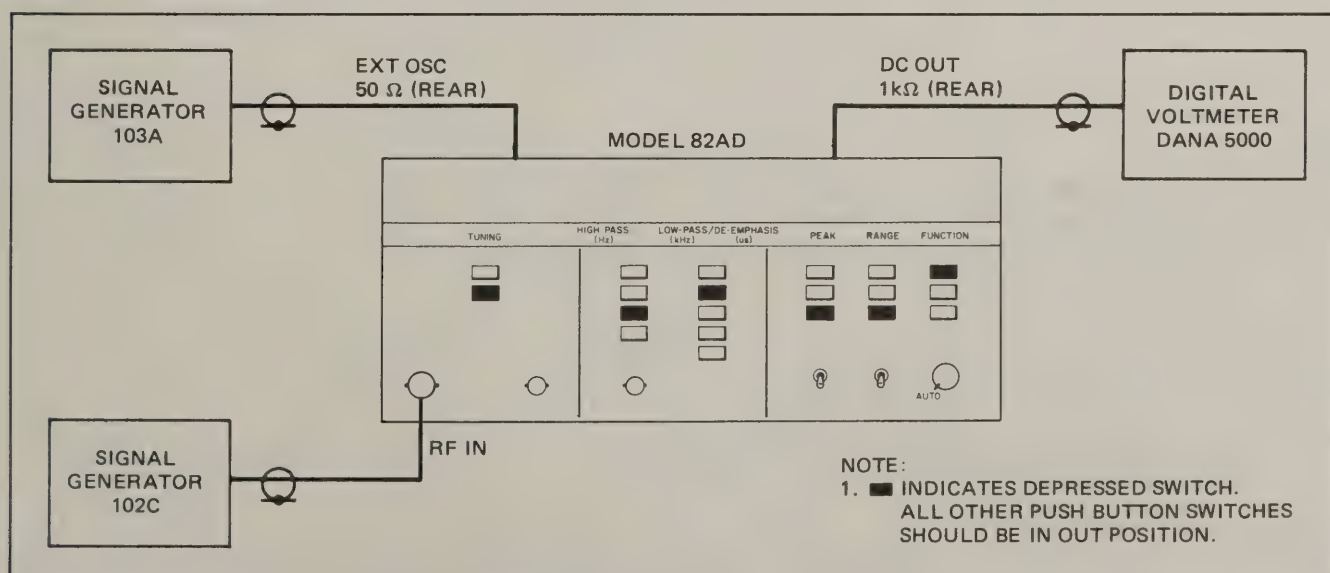

Figure 2-17 FM Audio Distortion Check, Test Setup
a. Connect the Model 82AD and test equipment as shown in Figure 2-17.
d. Set the Model 82AD LEVEL control to the AUTO position, and depress the switches indicated in Figure 2-17.